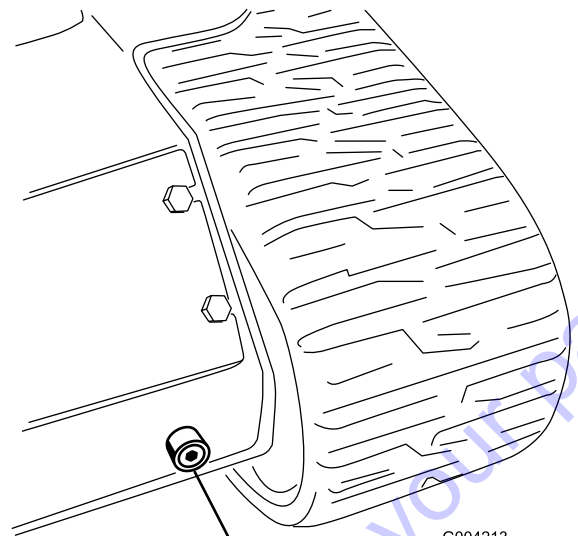

Figure 64
6. Place a large drain pan capable of holding 57 L (15 US gallons) under the drain plug on the front of the machine (Figure 64).
7. Remove the drain plug and allow the oil to drain into the pan (Figure 64).